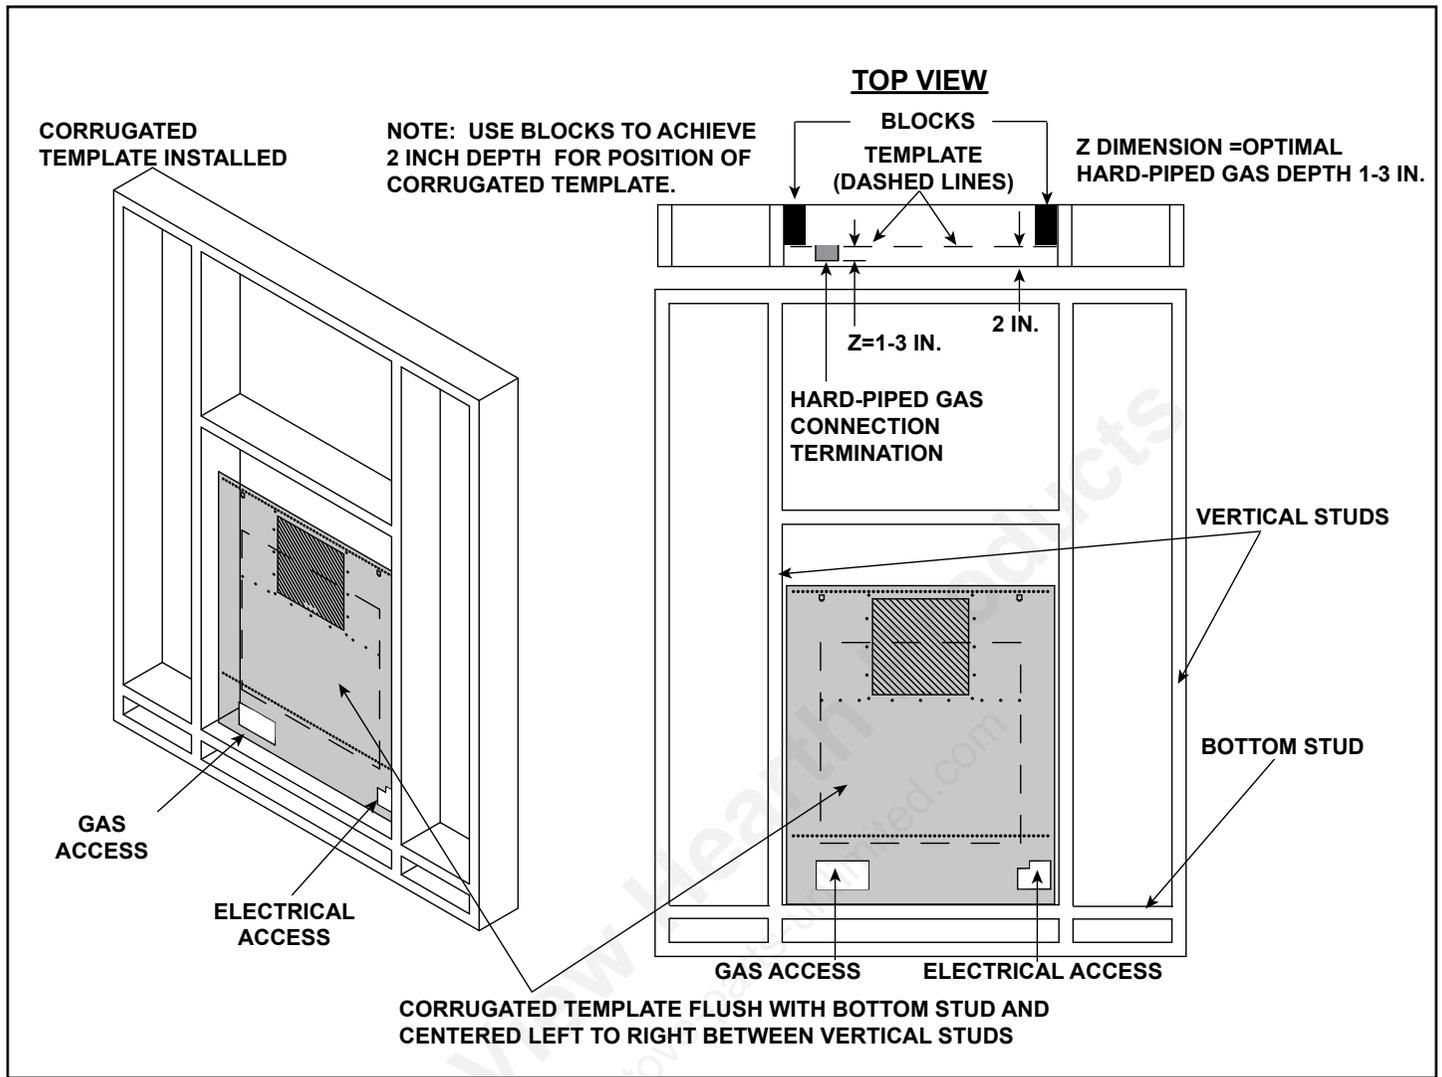

Figure 11.2 In-Wall with Corrugated Template
2. A Corrugated Template may be used to simplify the installation process. Contact your dealer or see Service Parts section in Owner's manual to order. Using the template for installations of the ION will help when locating the gas and electrical connections for the appliance. Install the corrugated template as shown in Figure 11.2. Use blocks to position the corrugated template in regards to depth.
Note: Hard-piped gas connections must be terminated with a specific "Z" dimension depth. See references to "Z" dimension in Figure 11.2. Terminating the Hard-piped gas connection with the proper "Z" dimension will simplify the process of connecting the gas to the appliance.